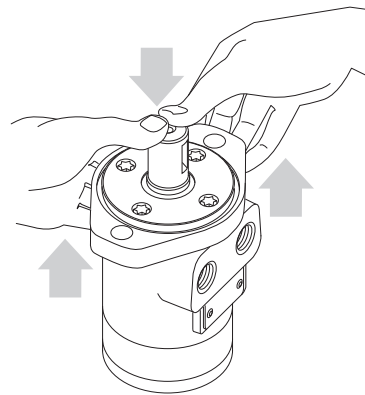

Figure 5-23, Motor Flange Removal
6. Press down on the end of the shaft while lifting the flange (Figure 5-23). Do **not** disturb the shaft.